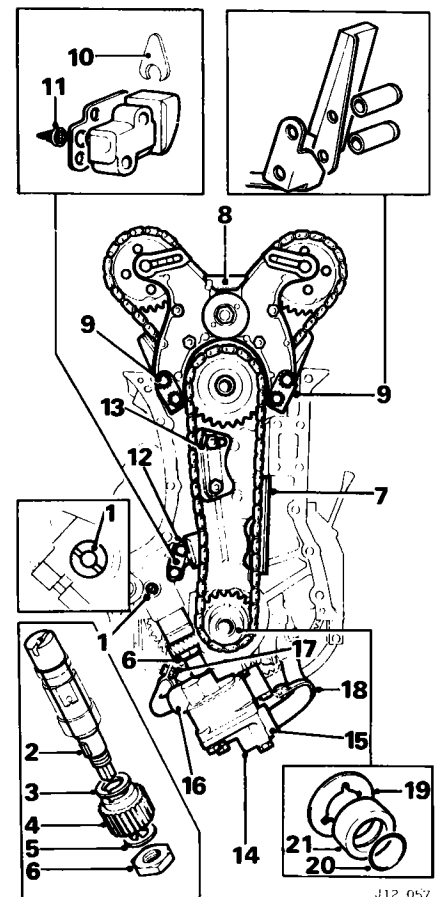

Fig. 72
Turn the crankshaft to accurately set pistons 1 and 6 to T.D.C. Place the distributor drive shaft in position with the offset slot as shown (1, Fig. 72). Slightly withdraw the shaft and fit Woodruff key (2, Fig. 72), thrust washer (3, Fig. 72) and drive gear (4, Fig. 72) on shaft. Maintaining correct slot position, press the shaft into gear, ensuring that the keyway engages correctly. Fit the pegged tab washer (5, Fig. 72) and secure it with plain nut (6, Fig. 72). Check the end-float of the shaft. The clearance should be 0,10 to 0,15 mm (0.004 to 0.006 in). If no clearance exists, renew drive gear. In emergency, the thrust washer can be reduced. Locate the lower timing chain dampers (7, Fig. 72) and loosely fasten.
Fit the Woodruff key to the second slot. Offer the top and bottom timing chain assembly and chain sprockets (8, Fig. 72) into position and secure using four setscrews and locking washers (9, Fig. 72). Position the damper in light contact with the chain and secure it. Screw the slipper of the chain tensioner into the body casting. Fit the slip gauge or distance card (10, Fig. 72) supplied with the new tensioner to maintain a clearance of 3,17 mm (0.125 in) between slipper and body. Locate the conical filter (11, Fig. 72) in the cylinder block. Secure the chain tensioner to the cylinder block using two setscrews (12, Fig. 72) and lock-washers. Fit the shims as required to ensure that the slipper runs central on the chain. Set the adjustable damper (13, Fig. 72) into light contact with the chain and secure it.
Remove the slip gauge or distance card, lightly tap to release ratchet. Locate the coupling on the oil pump (14, Fig. 72) and secure it to the front main bearing cap. Fit the lockplates and pipe bracket. Ensure that the 'O' ring seal is fitted in the oil pump suction (15, Fig. 72) and delivery ports (16, Fig. 72). Use a new gasket and fit the delivery pipe between the oil pump and cylinder block. Secure the pipe clip (17, Fig. 72). Fit the oil suction pipe and secure the pipe clips (18, Fig. 72).
Fit the oil thrower (19, Fig. 72) at the timing chain sprocket, if originally fitted.
Check the 'O' ring seal (20, Fig. 72) in the distance piece (21, Fig. 72) and fit on to the crankshaft.